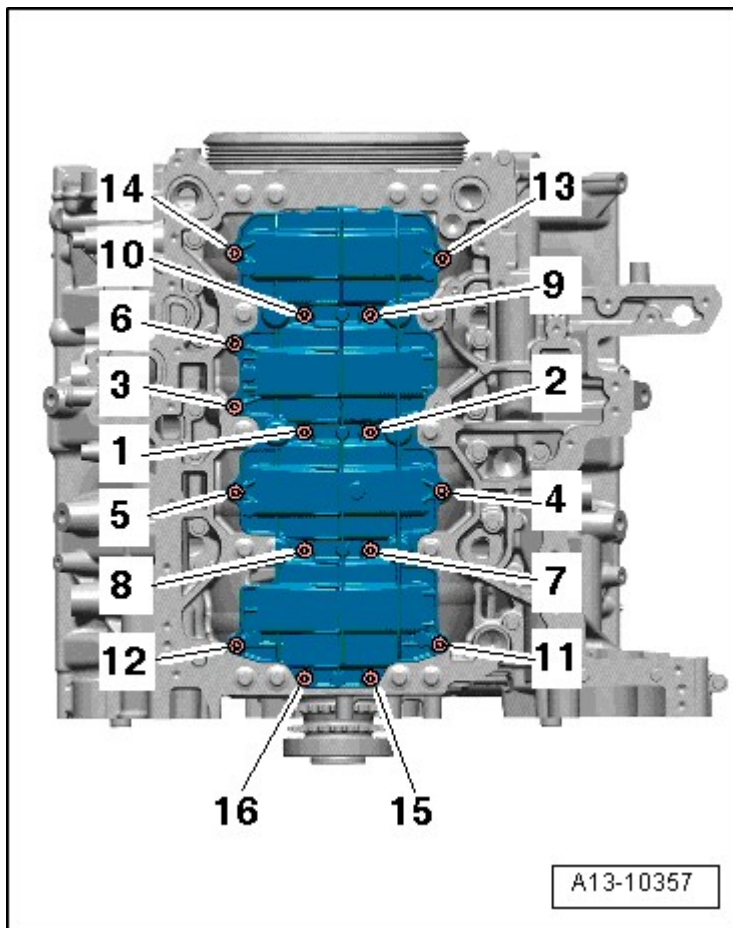

Fig. 10: Identifying Baffle Plate Bolts Tightening Sequence
- Tightening specification and sequence, refer to **Fig. 10**